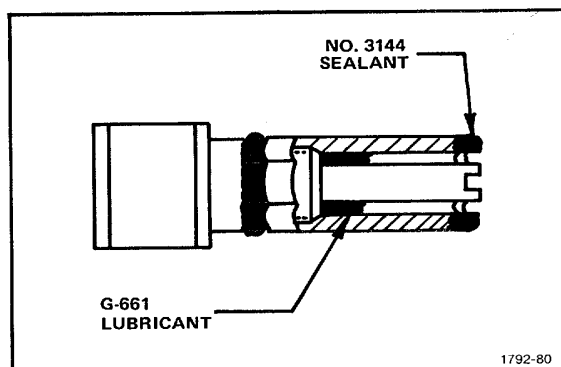

Figure 5-27. Application of sealant to the GAIN or the 0-dB SET control bushing.
3. Pack the Shaft/Threaded Bushing interface with G-661 lubricant as shown in Fig. 5-27.
4. Form a bead of No. 3144 sealant on the end of the Hex spacer nut as shown in Fig. 5-27.